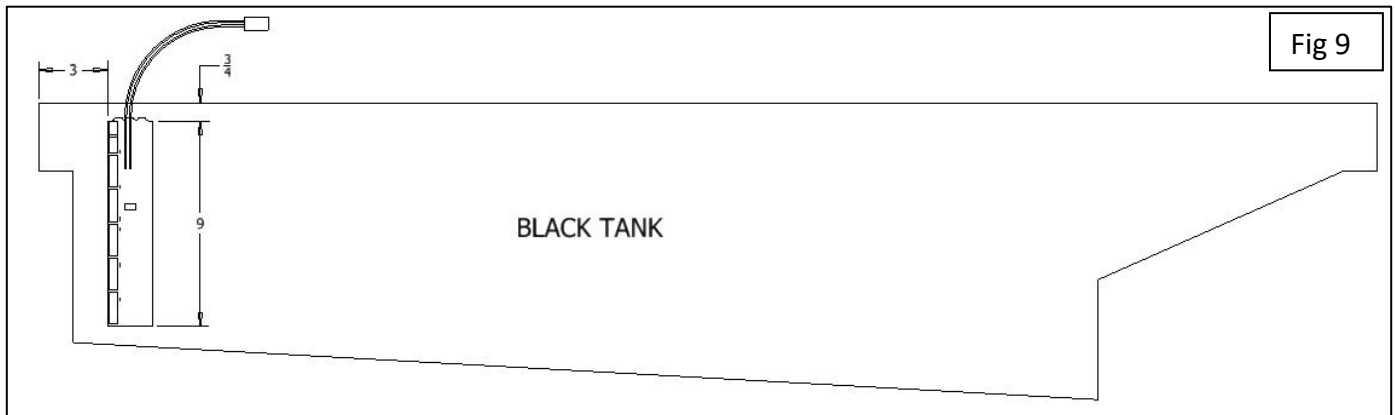

Fig 9
8. Install the 9 inch black tank sensor on the black tank (Figure 9)